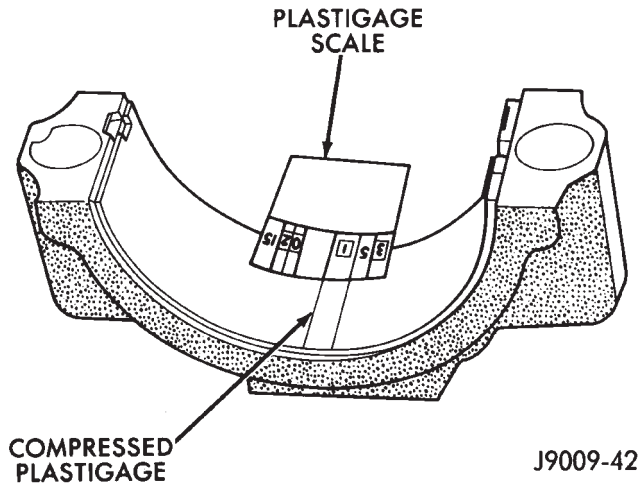

Fig. 21 Measuring Bearing Clearance with Plastigage
- (4) Install the lower bearing insert in the bearing cap. The lower insert must be dry. Place strip of Plastigage across full width of the lower insert at the center of bearing cap. Plastigage must not crumble in use. If brittle, obtain fresh stock.
- (5) Install bearing cap and connecting rod on the journal and tighten bolts to 45 N·m (33 ft. lbs.) torque. DO NOT rotate crankshaft. Plastigage will smear, resulting in inaccurate indication.
- (6) Remove the bearing cap and determine amount of bearing-to-journal clearance by measuring the width of compressed Plastigage (Fig. 21). Refer to Engine Specifications for the proper clearance. **Plastigage should indicate the same clearance across the entire width of the insert. If the clearance varies, it may be caused by either a tapered journal, bent connecting rod or foreign material trapped between the insert and cap or rod.**
- (7) If the correct clearance is indicated, replacement of the bearing inserts is not necessary. Remove